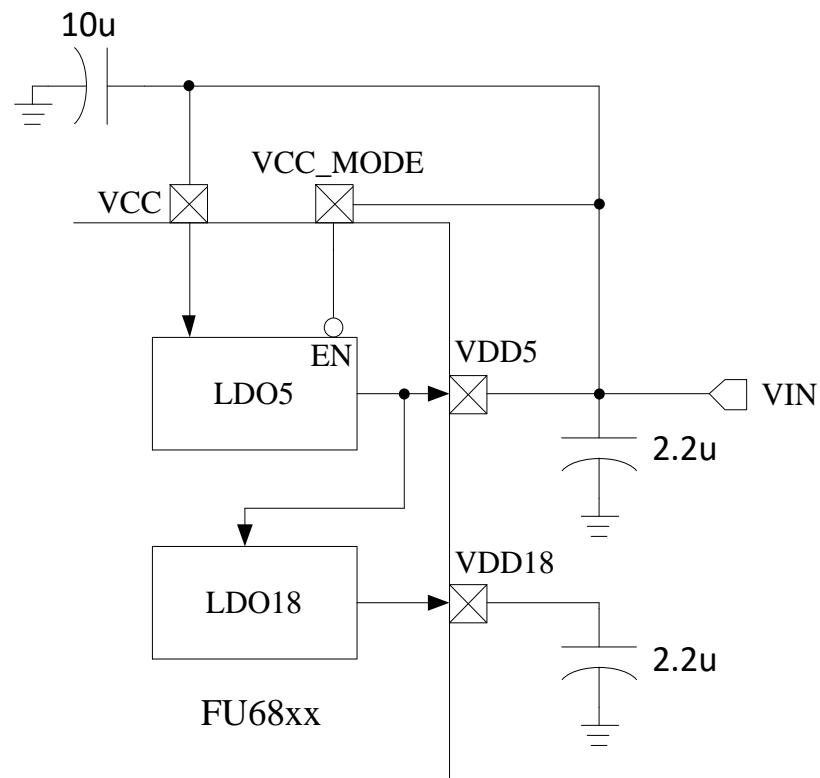

Figure 31-5 Low-voltage Single-power Supply Mode
- Low-voltage Single-power Supply Mode(VCC_MODE = 1): VCC = VDD5 = 3 ~ 5.5V. See Figure 31-5 for details.